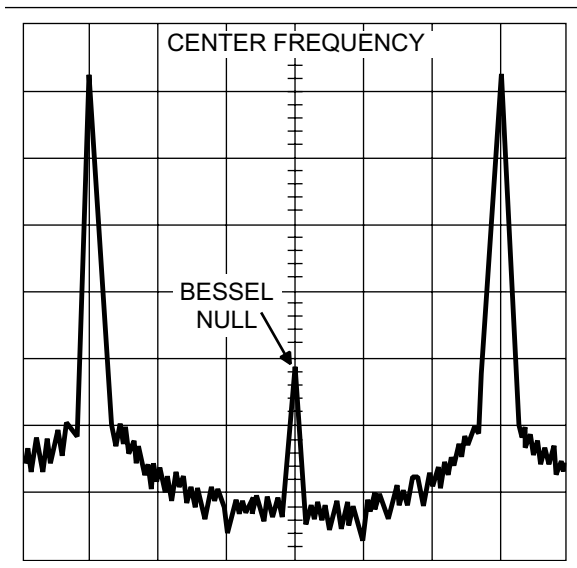

Figure 3-9. Typical Spectrum Analyzer Display of Bessel Null on FM Waveform
5. On the 683XXC, use the cursor control key to place the cursor under the last 0 in the deviation setting (0.240 MHz). While observing the first Bessel null (Figure 3-9), increase/decrease the deviation frequency with the cursor control key to reduce the carrier as low as possible.
4. On the 683XXC, use the cursor control key to place the cursor under the last 0 in the deviation setting (0.240 MHz). While observing the first Bessel null (Figure 3-9), increase/decrease the deviation frequency with the cursor control key to reduce the carrier as low as possible.